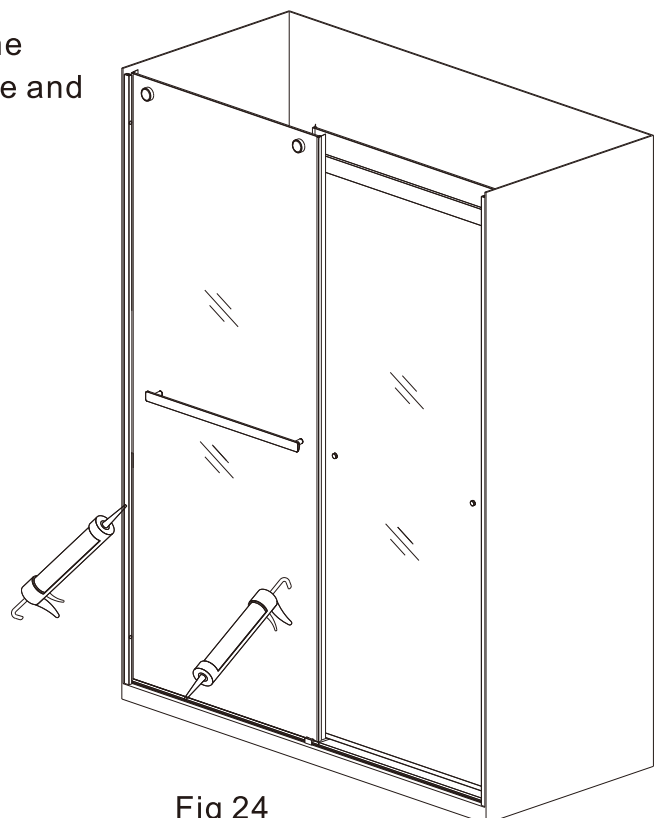

Fig 24
1. Apply a good quality Silicone Sealant on the walls and threshold along the bottom profile and wall profiles (Fig 24).